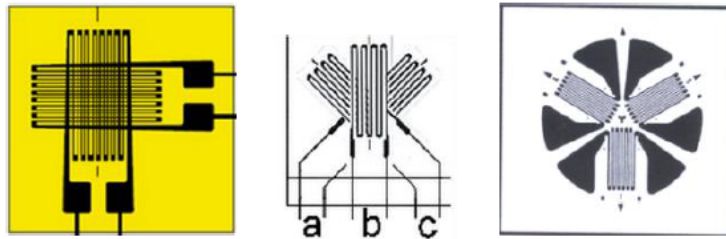

Fig. 7.115: Sketch of different rosette types
Fig. 7.115 shows sketches of different rosette types: left: 90° (T), middle: 45°, right: 120° rosette.